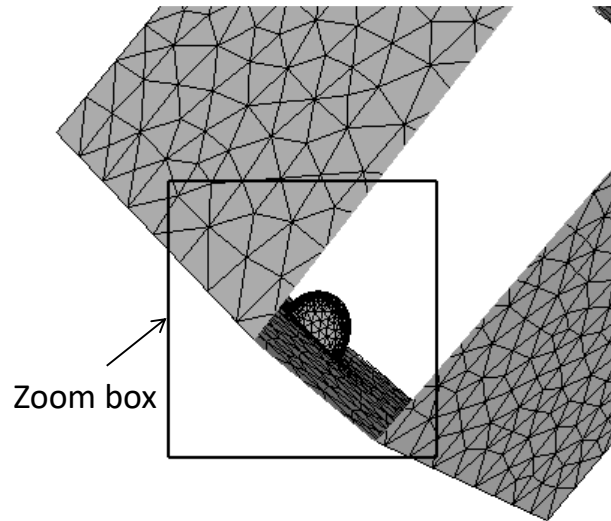

Figure 2.1.7 Box zoom used to zoom-in on a portion of the model.
**Box Zoom:** This allows one to zoom-in on a portion of the model by dragging a box, Fig 2.1.7. Press the **Box Zoom** button and then, using the left mouse button, click and hold, then drag the mouse to create the box, and then release the mouse button.